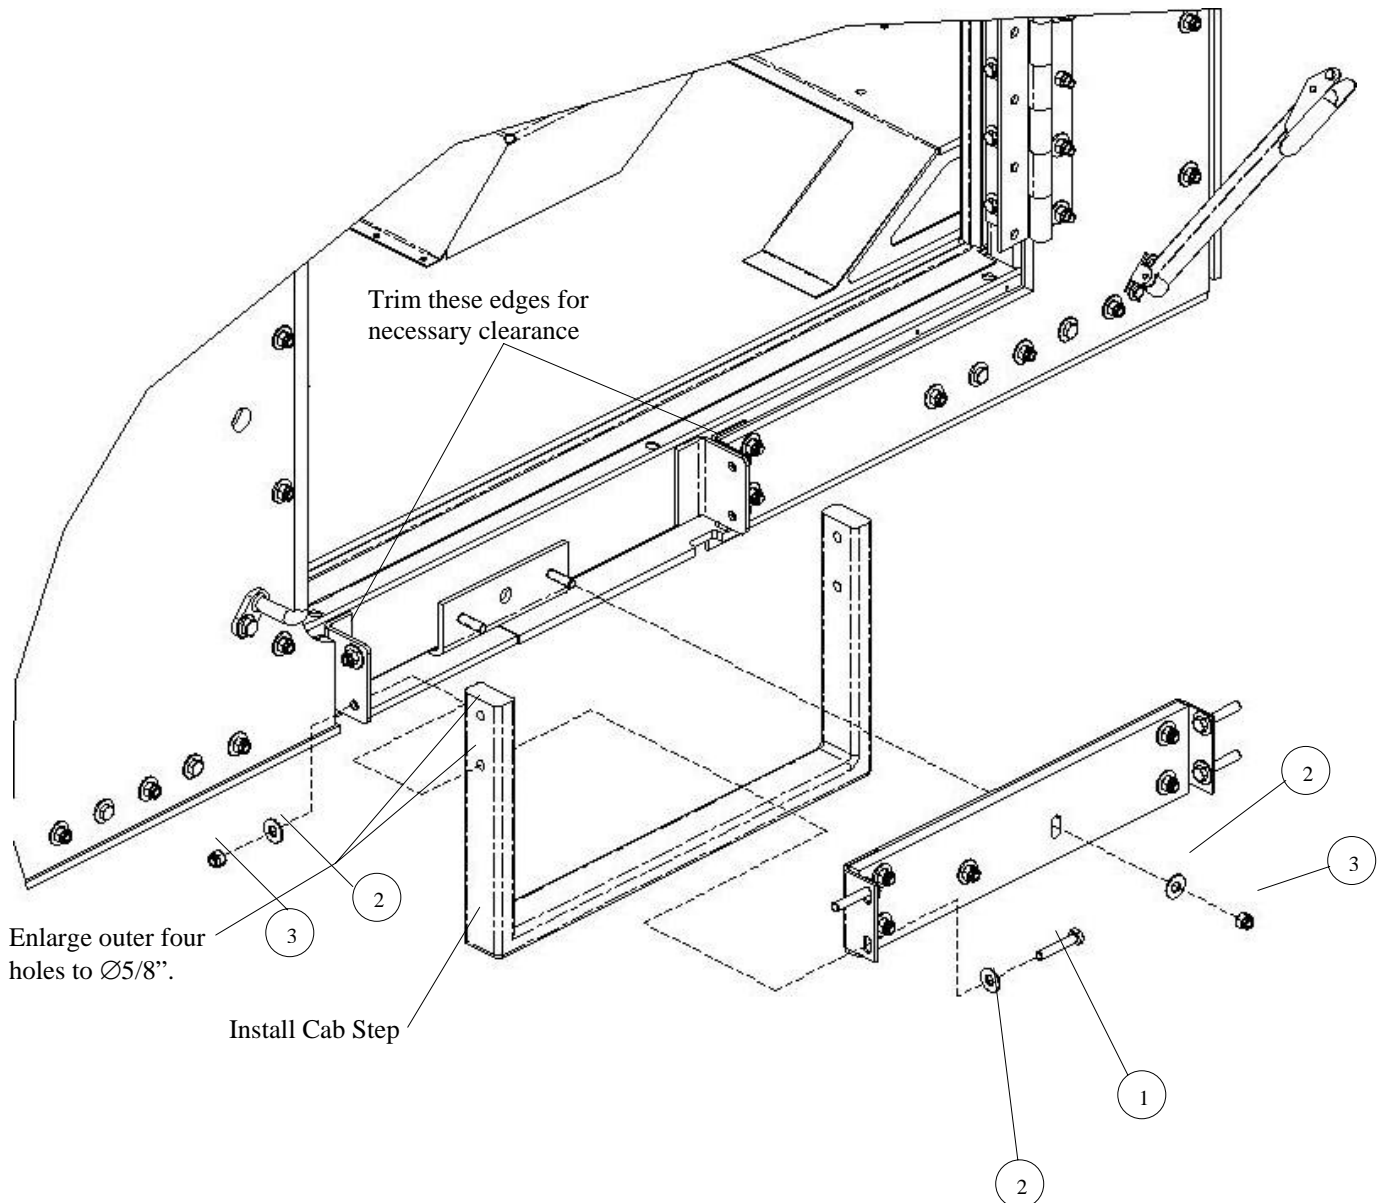

Figure 3-68. Right Step Panel Installation.
2. Install right step panel assembly as follows (see Figure 3-68):
- a. Enlarge outer four holes in cab step to $\text{Ø}5/8''$. This allows the position of the step to be lowered slightly during re-installation for necessary clearance of the new armored door seal. In addition, it may be necessary to trim the step brackets as shown in Figure 3-68.
- b. Install right step panel assembly into position with original cab step, between welded step brackets on cab frame and against step joiner bracket and secure with four bolts (1), eight flat washers (2), and four locknuts (3). Torque locknuts to 35 lb-ft.
- c. Install two flat washers (2) and locknuts (3). Torque locknuts to 23 lb-ft. (Be sure to lower the position of the cab step.)